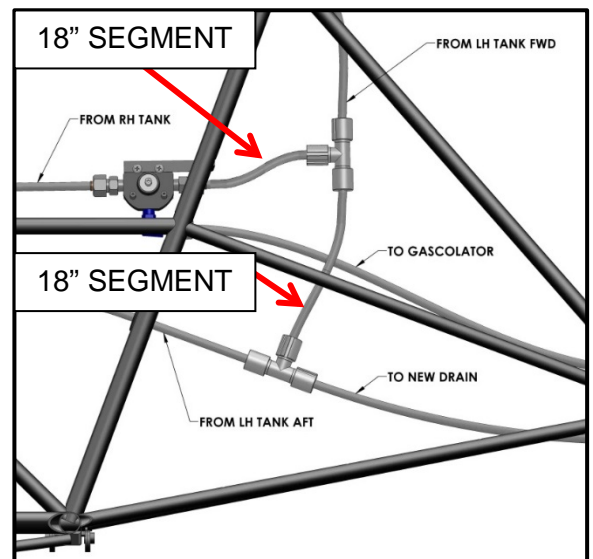

FIGURE 14 – New Alternate Fuel Line Routing
42. From the lower arm of the union tee, connect another 18" section of poly-flo tubing and route to the trunk of the lower union tee (see Figure 14), trim tubing to fit as required.